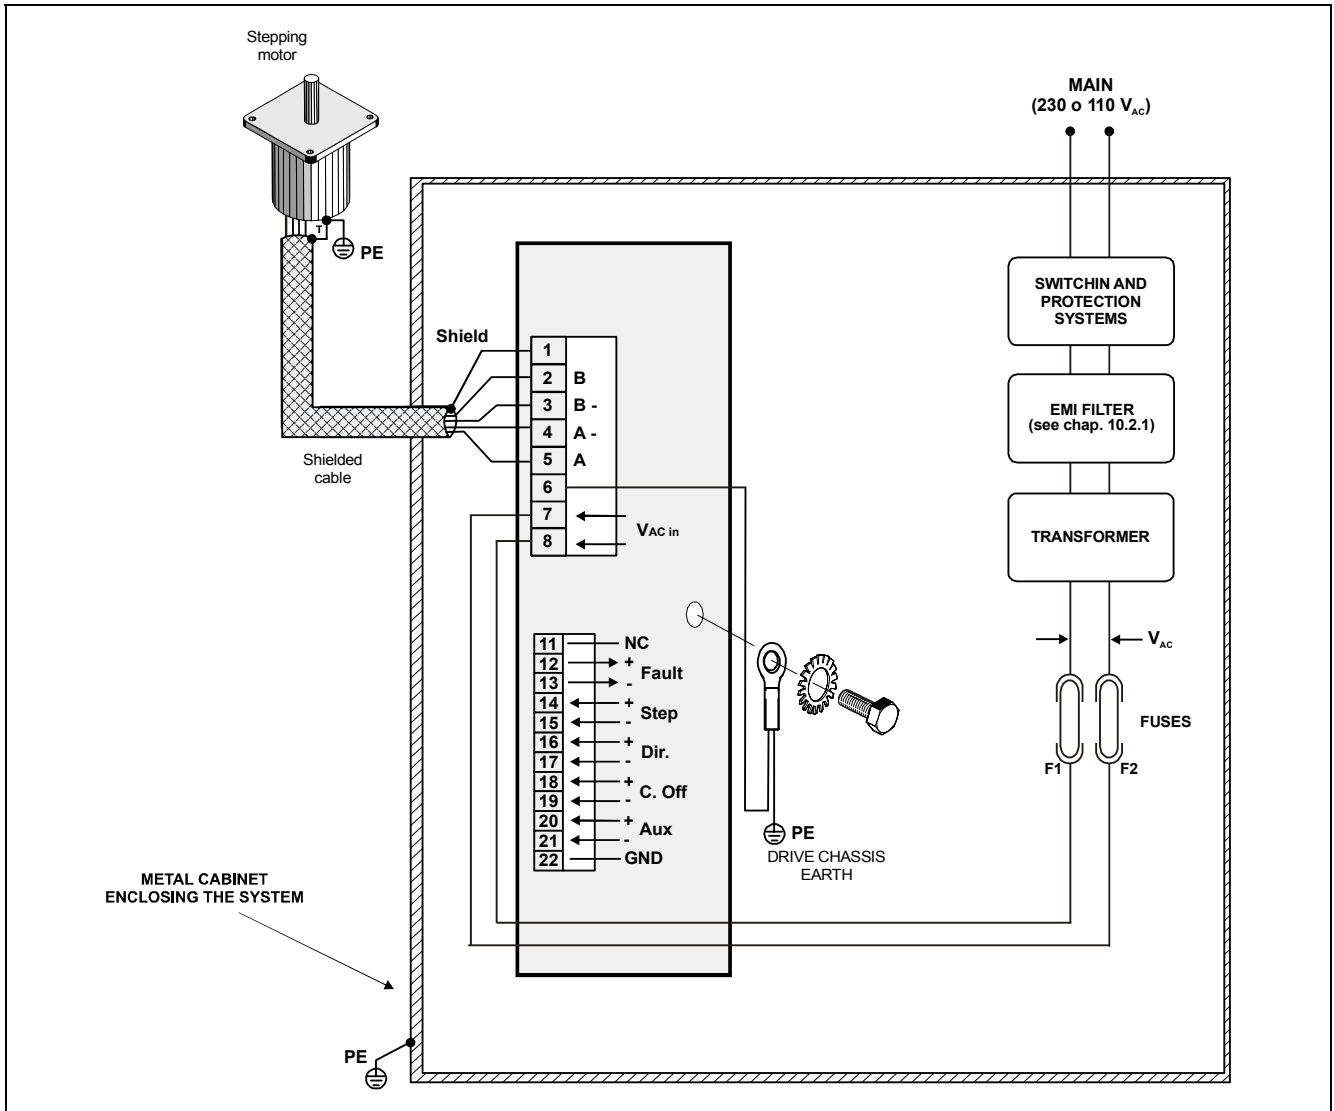

Fig. 6 – Drive external connections scheme.
- 7.3- The use of one secondary winding for more drives (max 3 drives) is allowed only if the total power required by the drives is less than 600VA. In any case, two fuses (F1 and F2 showed in Figure 6) for each drive must be used.
- 7.4- **Branch circuit protection fuses F1 and F2 (see Fig. 6) must be 10 Amp, at least 250 Volt with  $I^2t$  between 150 A2s and 400 A2s (for example Cooper Bussman model KTK-R-10 or Littelfuse 215010.P).**